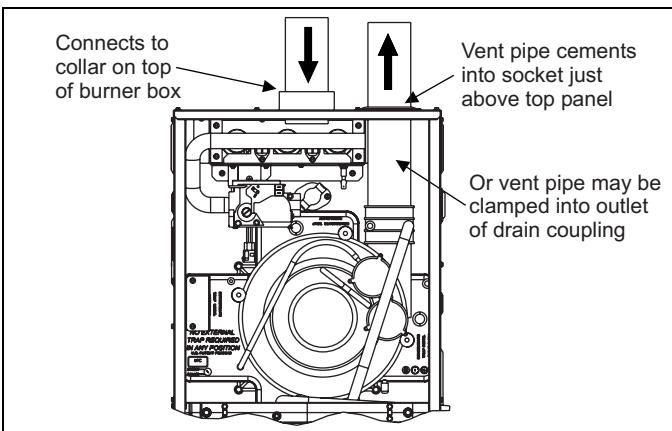

FIGURE 35: Direct Vent Air Intake Connection and Vent Connection
- OUTDOOR COMBUSTION AIR:** This is a direct vent configuration where the combustion air is supplied through a PVC or ABS pipe that is connected to the PVC coupling attached to the furnace and is terminated in the same atmospheric zone as the vent. This type of installation is approved on all models. Refer to Figure 35.
This installation requires combustion air to be brought in from outdoors. This requires a properly sized pipe (Shown in Figure 35) that will bring air in from the outdoors to the furnace combustion air intake collar on the burner box. The second pipe (Shown in Figure 35) is the furnace vent pipe.